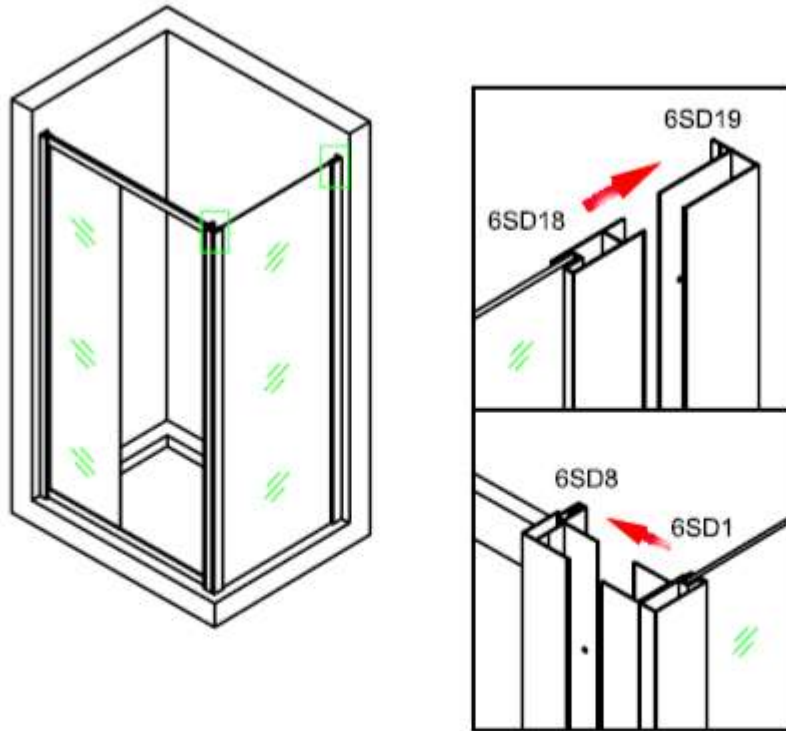

Figure 7
7. Adjust the wall profile with the fixed profile, as shown in figure 7.